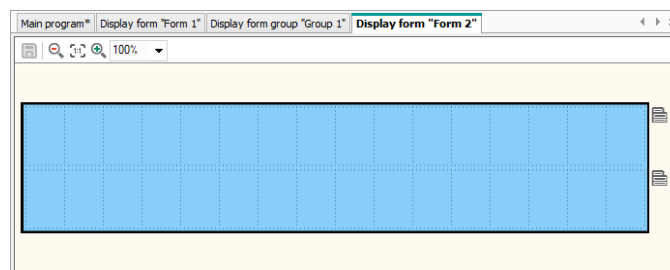

Fig. 8.2 Display Editor
- In Structure Editor, use the toolbar icon  (Fig. 8.2).
If the display structure consists of more than one form, “jumps” should be defined to enable the navigation between forms (sect. 8.3, Fig 8.2).